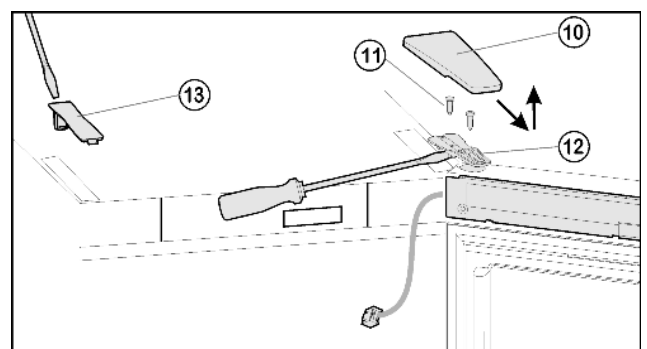
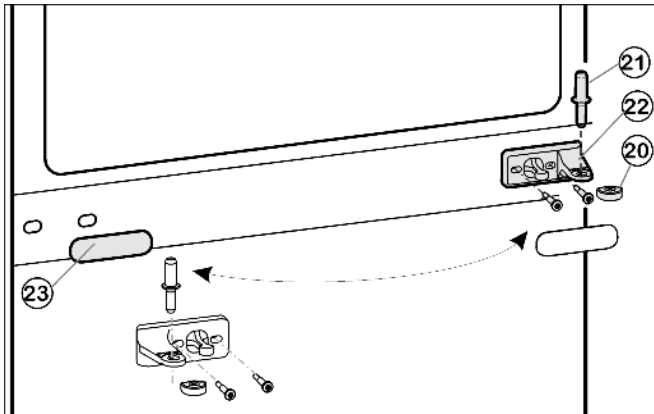
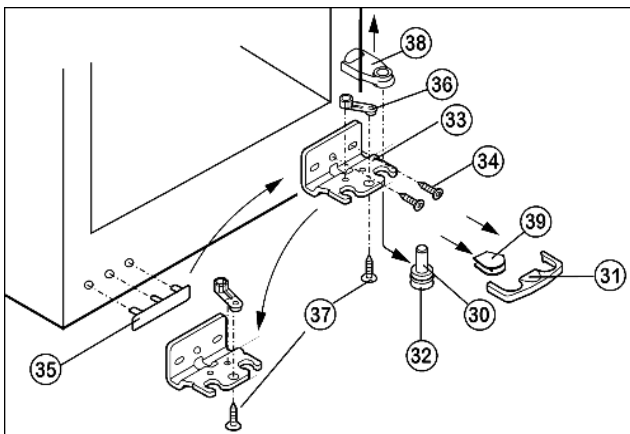

Fig. 5
Fig. 6
Fig. 7
- ▶ Pull off the cover Fig. 5 (10) forwards and remove cover Fig. 5 (13).
- ▶ Undo the screws Fig. 5 (11).
- ▶ Lift and remove the door complete with turn hinge *Fig. 5 (12)* and cable. For release, possibly use a flat-blade screwdriver to apply lever action under the turn hinge.
- ▶ Draw the middle bearing pin *Fig. 6 (21)* out of the turn hinge and lower door.
- ▶ Remove the plastic cap *Fig. 6 (20)*.
- ▶ Detach the middle turn hinge *Fig. 6 (22)*.
- ▶ Carefully detach the cover panel *Fig. 6 (23)*.
- ▶ Turn the middle turn hinge *Fig. 6 (22)* 180° and transfer it to the new hinge side.
- ▶ Snap the cover panel *Fig. 6 (23)* into place on the new handle side.
- ▶ Pull off the lower cover *Fig. 7 (31)* forwards.
- ▶ Remove lower cover *Fig. 7 (39)*.*
- ▶ Raise the cover *Fig. 7 (38)* for removal.*
- ▶ Turn the adjustable-height foot *Fig. 7 (32)* all the way in.
- ▶ Pull out the bearing pin *Fig. 7 (32)* downwards and forwards. In so doing, pay attention to the hinge bush *Fig. 7 (30)*.
- ▶ Unscrew the turn hinge *Fig. 7 (33)*(2 Torx 25) *Fig. 7 (34)*.
- ▶ Unscrew the bearing part *Fig. 7 (36)*(1 Torx 25), *Fig. 7 (37)* transfer it to the opposite hole in the turn hinge and screw it down again.
- ▶ Carefully lift off and transfer the cover *Fig. 7 (35)* on the handle side.
- ▶ Screw down the turn hinge *Fig. 7 (33)* on the new hinge side, possibly with the aid of a cordless screwdriver, through the outer oblong hole and round hole.
- ▶ Tip the appliance back a little again and transfer the bearing pin *Fig. 7 (32)*.
- ▶ Place the door from above onto the bearing pin *Fig. 7 (32)*.
- ▶ Insert middle bearing pin *Fig. 6 (21)* through middle turn hinge *Fig. 6 (22)* into the lower door.
- ▶ Attach plastic cap *Fig. 6 (20)*.
- ▶ Place the upper door on the middle bearing pin Fig. 6 (21), close the door and attach the upper turn hinge Fig. 5 (12) so that it engages with the upper side of the appliance.
- ▶ Screw down the turn hinge Fig. 5 (12). Possibly make preliminary holes with a bradawl or use a cordless screwdriver.
- ▶ Snap on the cover Fig. 5 (10) and cover Fig. 5 (13).
- ▶ If necessary, align the doors to the appliance housing by way of the two oblong holes in the lower turn hinge Fig. 7 (33) and middle turn hinge Fig. 6 (22), then tighten the screws.
- ▶ Engage the cover Fig. 7 (31) on the lower turn hinge.